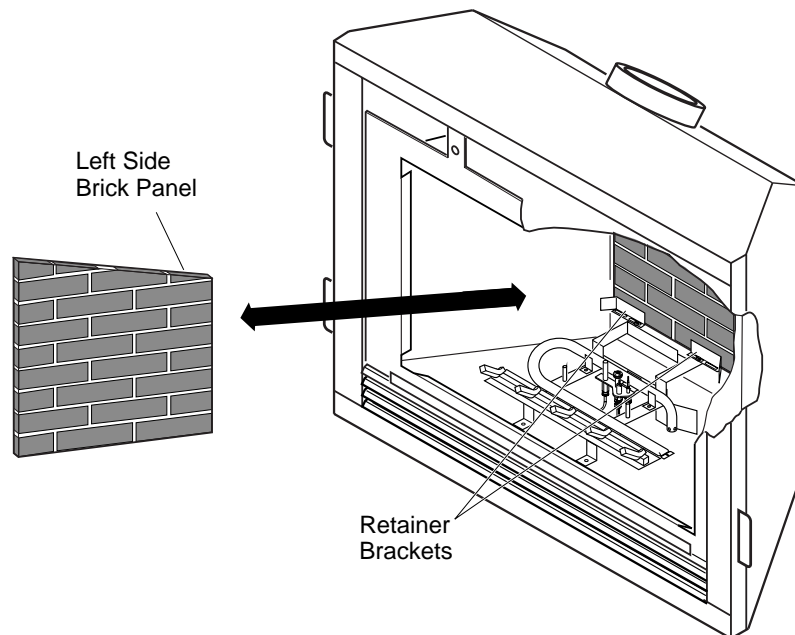

Figure 47 - Installing Left Side Brick Panel
5. Install left side brick panel by sliding it between the grate and the side of the firebox (see Figure 47).